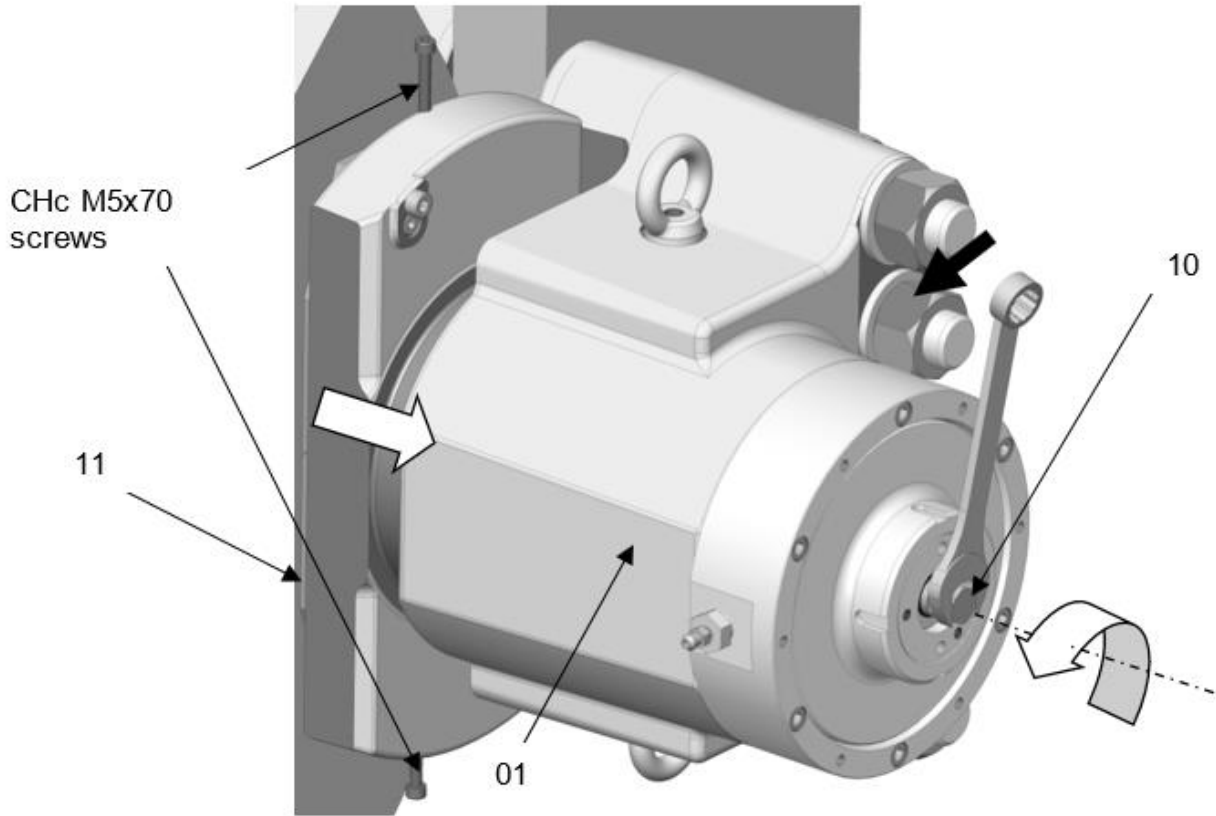

Fig. 5.5
3. Turn the wrench anti-clockwise to push back the jaw to the maximum Fig. 5.5. The clearance between the pad holder and the disc must not be more than: 9 mm + remaining pad thickness.
4. Insert the Chc M5x70 Fig. 5.5 screws onto the sides of the pad, used as handles, and take pad **11** out of the housing in body **01**.